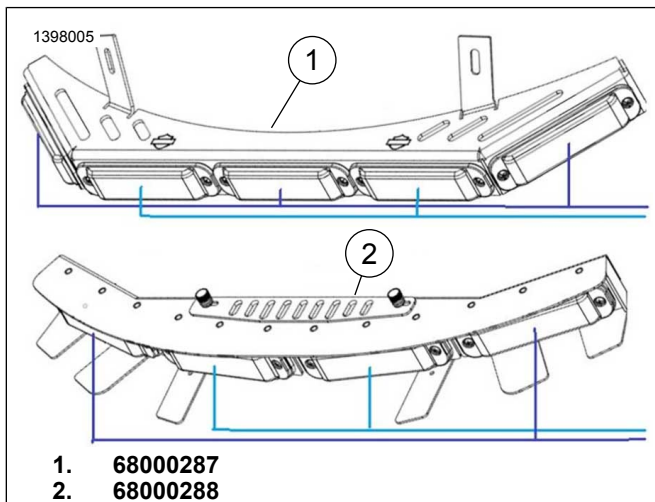

Figure 8. Light Head Configurations
See Figure 8. for a visual representation of these light head configurations, which differ for 68000287 (1) and 68000288 (2).